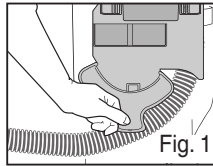

Fig. 1
- Remove hose from hose retainer. Flex the hose to loosen any blockage (Fig. 1).